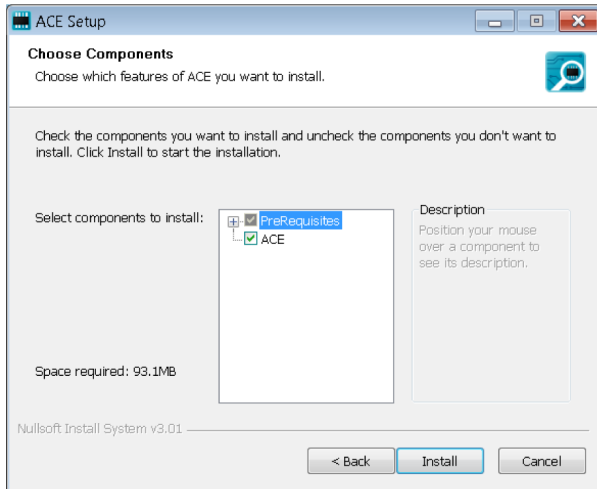

Figure 7. Evaluation Software Installation—Install Components
7. The ACE software components to install are preselected (see Figure 7). Click **Install**.